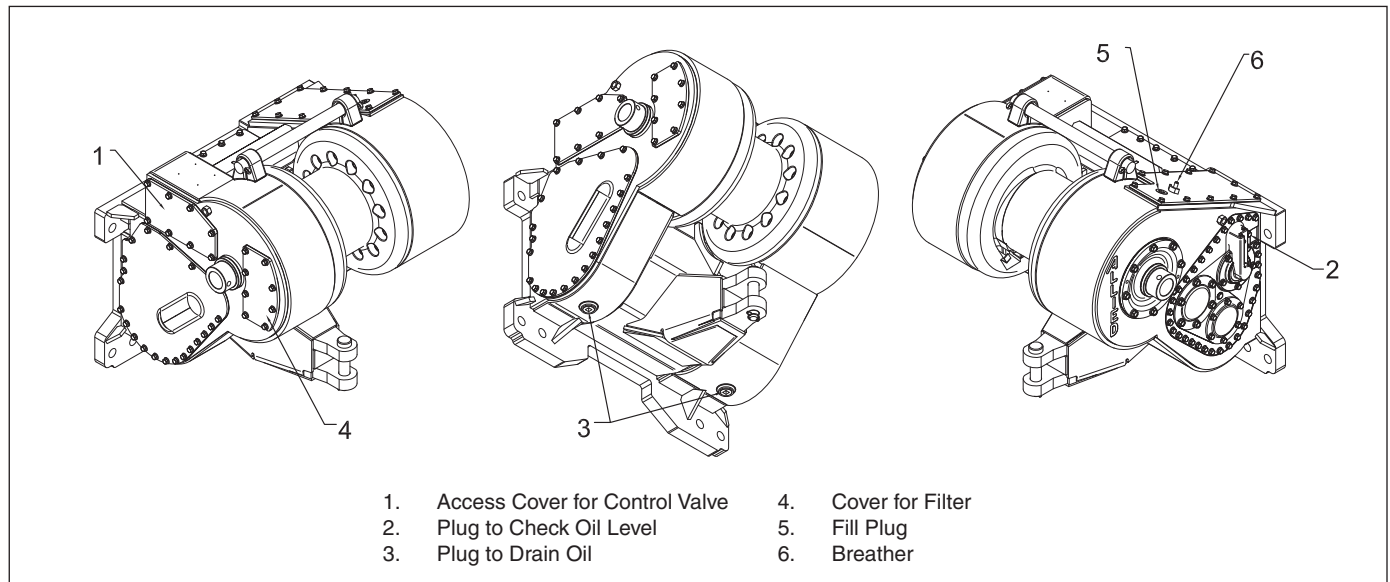

Figure 2-13 W12E Maintenance Points (Ratio #7 shown)
4. Remove any dirt from the left side of the winch. Remove control valve access cover (Figure 2-13).